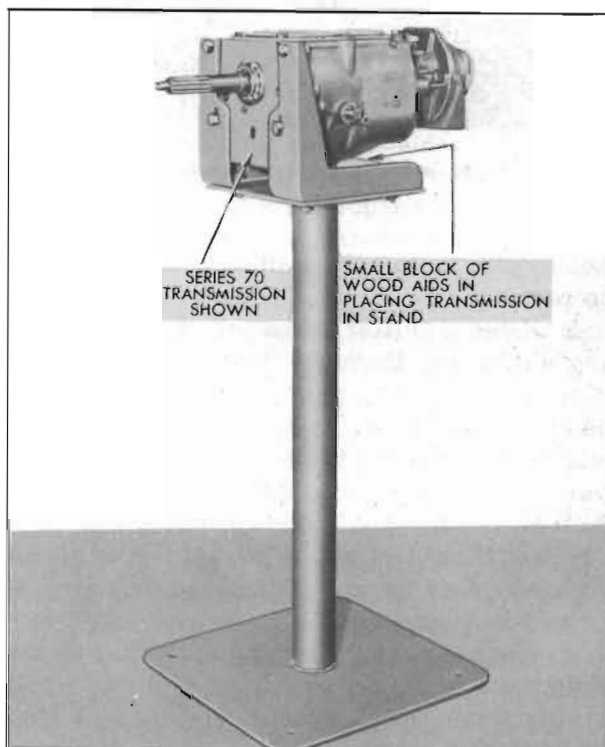
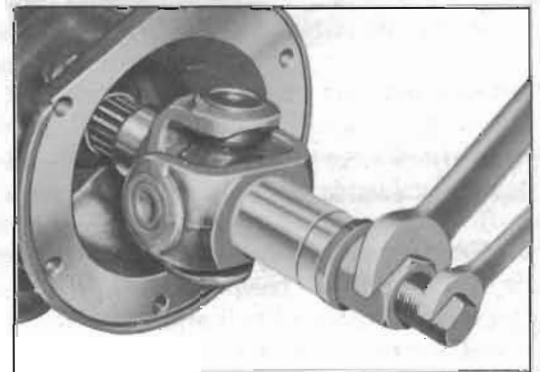

Figure 4-29—Transmission Supported in Stand
Figure 4-36—Installing Universal Joint with Replacer J 865
Some form of fixture for securely holding the transmission during disassembly and assembly is essential. The transmission stand shown in figure 4-29 may be made locally from details given in BPS 2.222, or figure 4-36 in the 1948-49 Buick Shop Manual. If a stand is not desired, the upper section may be mounted on a work bench. *Do not clamp the transmission case in a vise.*
(3) *Universal Joint.* Use Replacer J 865 to install universal joint on main shaft. See figure 4-36.